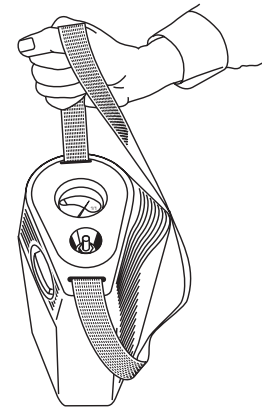

Figure 1-11: Checking Liquid Oxygen Contents
10. Check the liquid oxygen contents indicator. The amount of liquid oxygen in the Companion 1000/T is measured by an internal scale on top of the unit. Actuate the scale by lifting the unit by the strap nearest the indicator. The color-coded gauge indicates the liquid level (Figure 1-11).